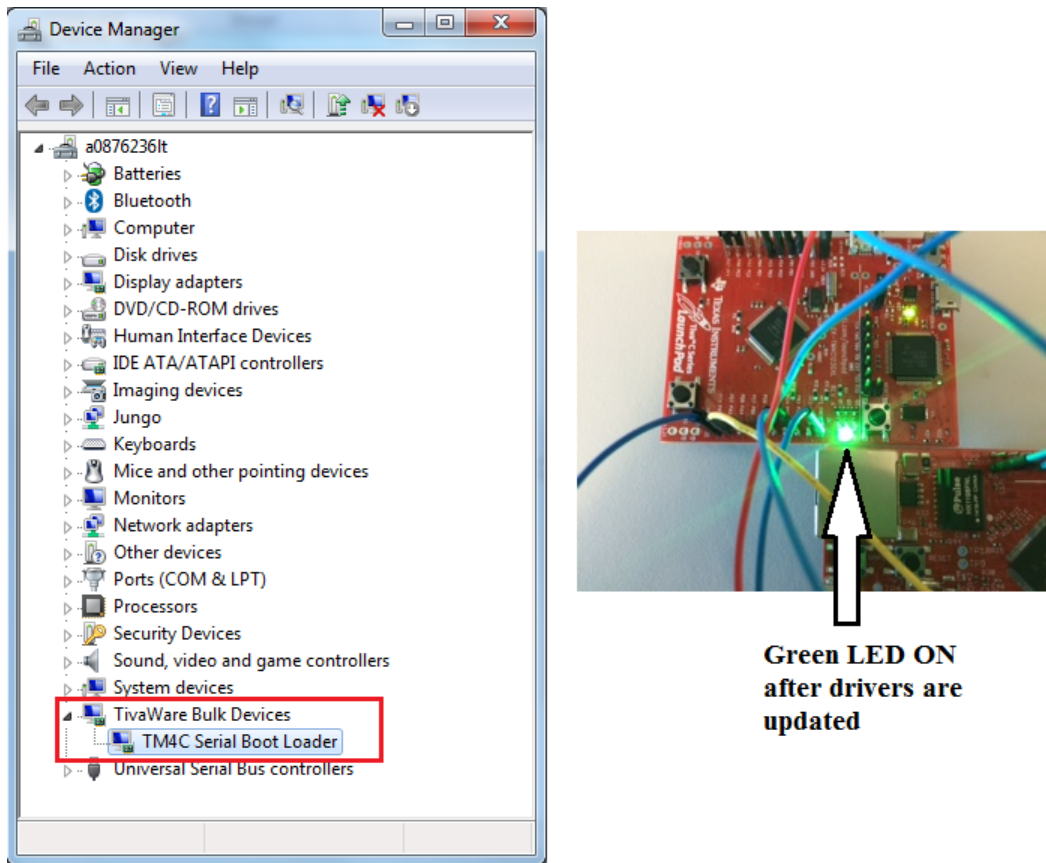

Figure 35. Device Manager and Board View After Driver Installation
- You will get a prompt by the Windows OS because the drivers are not signed. Accept the warning message. Once the Windows OS updates the drivers, the device is re-enumerated as “TM4C Serial Bootloader” and the Green LED on the board is lit, which indicates that the device is now enumerated and connected to the PC Host, as shown in Figure 35.